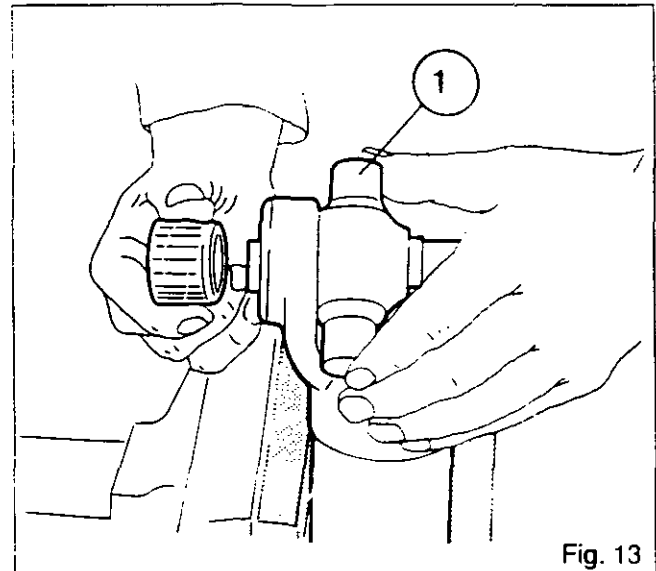

Fig. 13
90. Position the universal joint (1) in the yoke and push it as far as possible to the side (Fig. 13), so that the extremity of the cross-pin serves as a guide for fitting the sleeve with the needles.